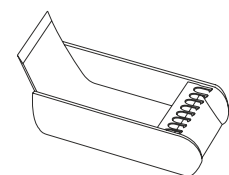

Fig. 7
11. *Stain the gel in the Easy Staining tray on the shaker *(Fig. 7)*
11. It is recommended to cover the Easy staining tray (Fig. 7) to protect the gel from light during staining (15 - 40 min) and destaining (optional).